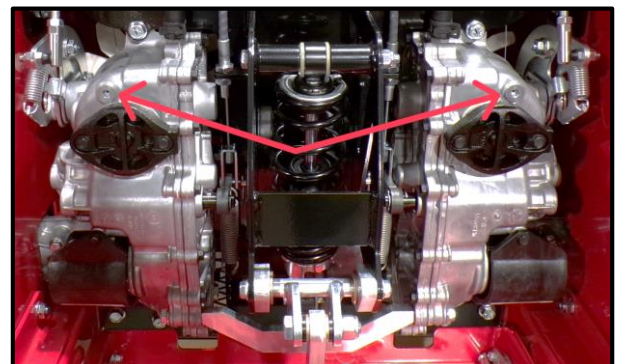

Figure 7 Plug Locations on Transaxle
- Remove the plugs from the location shown [Figure 7] using a 1/4" Hex Bit Socket and ratchet. *Do Not Discard* **Note:** This should help the transaxles drain completely.